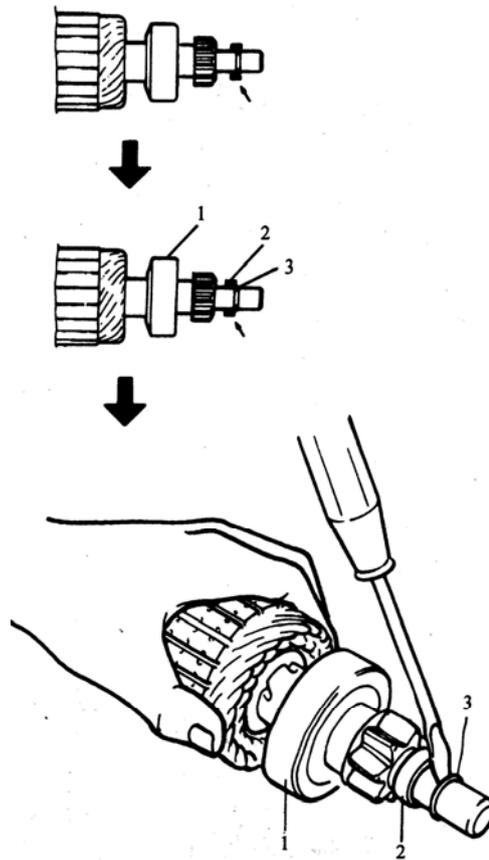

Fig.9-16
(7) Remove over-running clutch (Fig. 9-16).